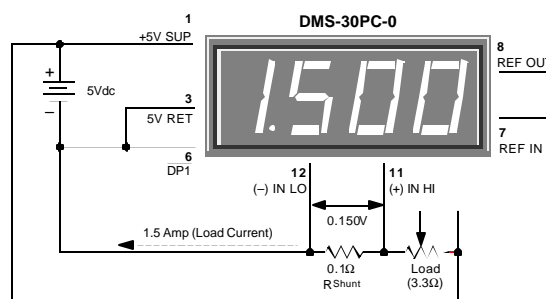

Figure 9. Basic DC Ammeter Circuit
- 7. Digital Ammeter:** Digital ammeters are finding ever-increasing usage because analog-style ammeters (moving-vane types) now cost roughly the same as their digital counterparts. Additionally, analog ammeters are not nearly as rugged as modern digital panel voltmeters. Figure 9 illustrates a typical ammeter application. The circuit uses a ±200mV input meter — the preferred range for most ammeters — to measure the voltage developed across a 0.1Ω current shunt. The circuit shown represents a basic ammeter connection diagram. A detailed application note describing digital dc ammeters is included in DATEL's new Digital Panel Meter Databook.